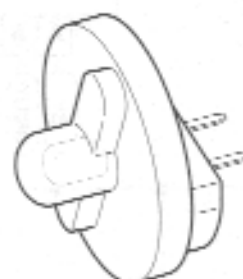

Figure 4-20. Test Lamp
6. Use test lamp as shown in Figure 4-20.